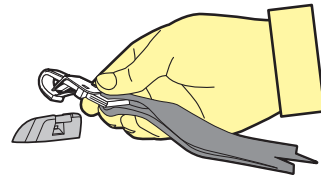

Figure 5
- Step 5:** Hook the attachment clip to the anchor fitting. **Ensure there are no twists in the top tether strap** (refer to Figure 5).